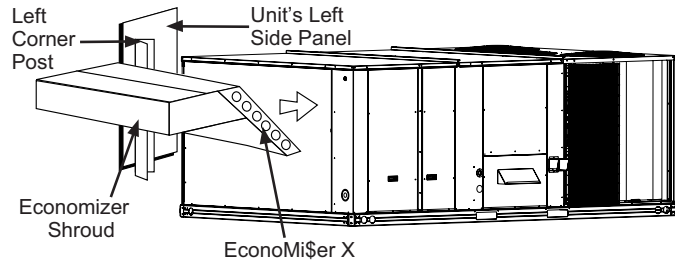
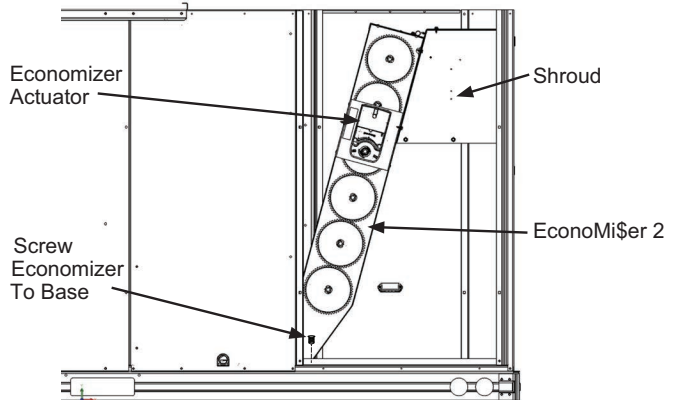
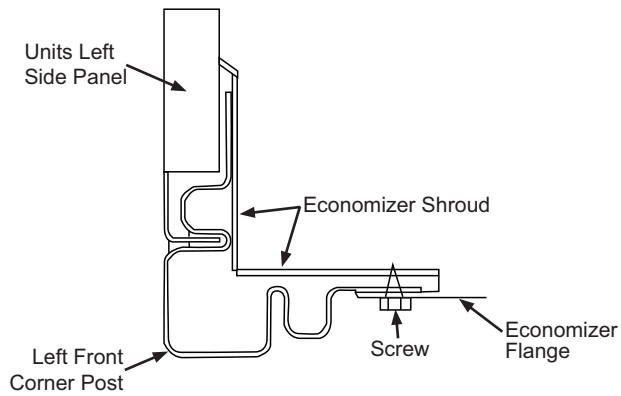

Fig. 2 — Unit Left Side Panel and Corner Post
Fig. 3 — Side View
Fig. 5 — Top View
4. Remove the unit's left side corner post and left side panel to allow for easy economizer installation. (See Fig. 2.)
5. Install economizer, with shroud attached as shown in Fig. 2, into the return air section of the unit. Be careful not to pinch the wires during installation. The bottom of economizer will rest on the base of the unit. (See Fig. 3 and 4.)
NOTE: The corner post will sit behind the economizer shroud flange. (See Fig. 5.) Screw through the corner post and through the economizer shroud. (See Fig. 3 and 5.)
7. Insert provided screw through the bottom left rear of the economizer and into the unit base. (See Fig. 3.) Reinstall the unit's left side panel.
5. Install economizer with shroud attached, as shown in Fig. 3, into the return air section of the unit. Be careful not to pinch the wires during installation. Bottom of economizer will rest on the base of the unit. (See Fig. 3.)
6. Reinstall the left side corner post on to the unit. Note the corner post will sit behind the economizer shroud flange. (See Fig. 5.) Screw through the corner post and through the economizer shroud. (See Fig. 5 and 6.)
7. Insert provided screw through the bottom left rear of the economizer and into the unit base. (See Fig. 3.) Install the new (provided) left side panel without the duct opening on the unit.